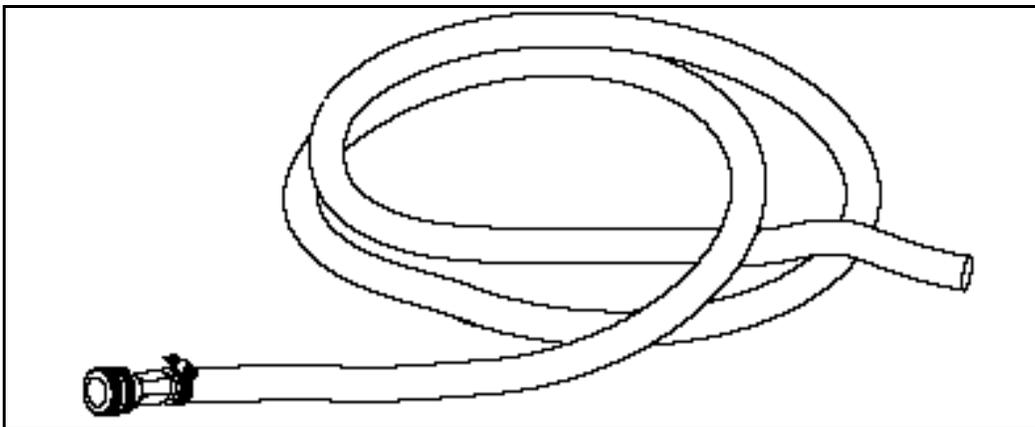

Figure 3
- Fuel Overflow Hose. Figure 3. The fuel overflow hose connects to the fuel flow control valve and allows any overflow fuel to be sent outside the shelter.